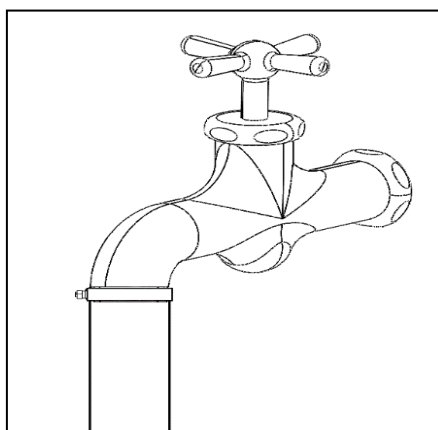

Fig. 1
5. Turn on both the water tap (Fig. 1) and the water valve (Fig. 2 – 2).